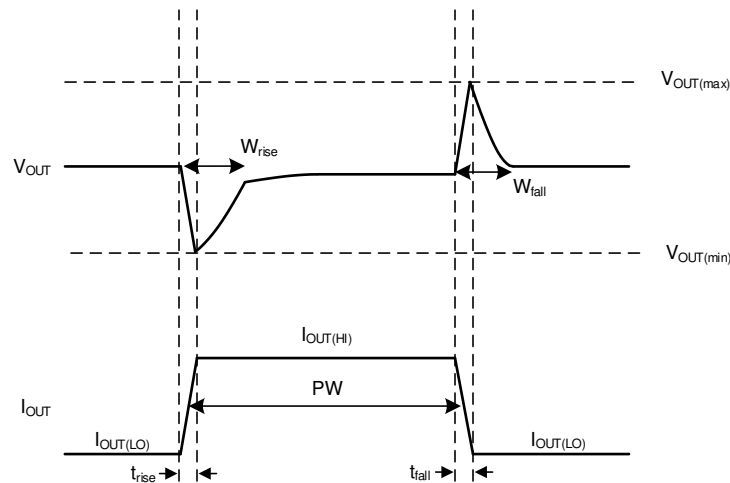

Figure 104. Simplified Load Transient Waveform
The transient response peaks ($V_{OUT(max)}$ and $V_{OUT(min)}$) are improved by using more output capacitance; however, doing so slows down the recovery time (W_{rise} and W_{fall}). Figure 104 shows these parameters during a load transient, with a given pulse duration (PW) and current levels ($I_{OUT(LO)}$ and $I_{OUT(HI)}$).